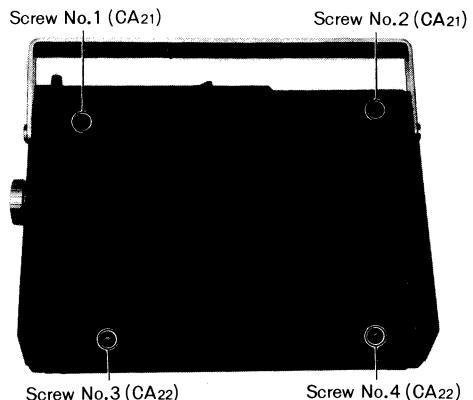

Fig. 1
1. Remove six (6) control knobs from cabinet.
3. Remove four (4) cover screws, nos. 1~4, as illustrated in fig.1.